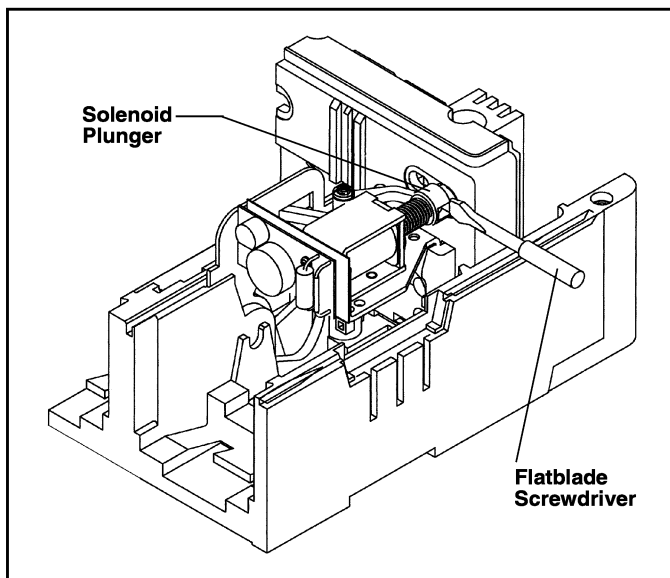

Fig. 2-6 Screwdriver Depressing Undervoltage Release Mechanism Solenoid Plunger
- b. Mechanical check. Using a small flat-blade screwdriver, (Fig. 2-6), push in and hold solenoid plunger. Switch circuit breaker to ON. Release solenoid plunger and check that circuit breaker trips.